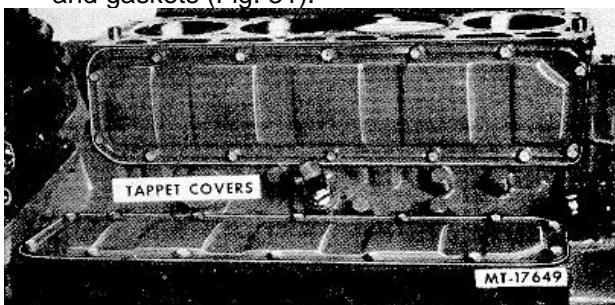

Fig. 31 Tappet Cover Removal
34. Remove capscrews and remove tappet covers and gaskets (Fig. 31).